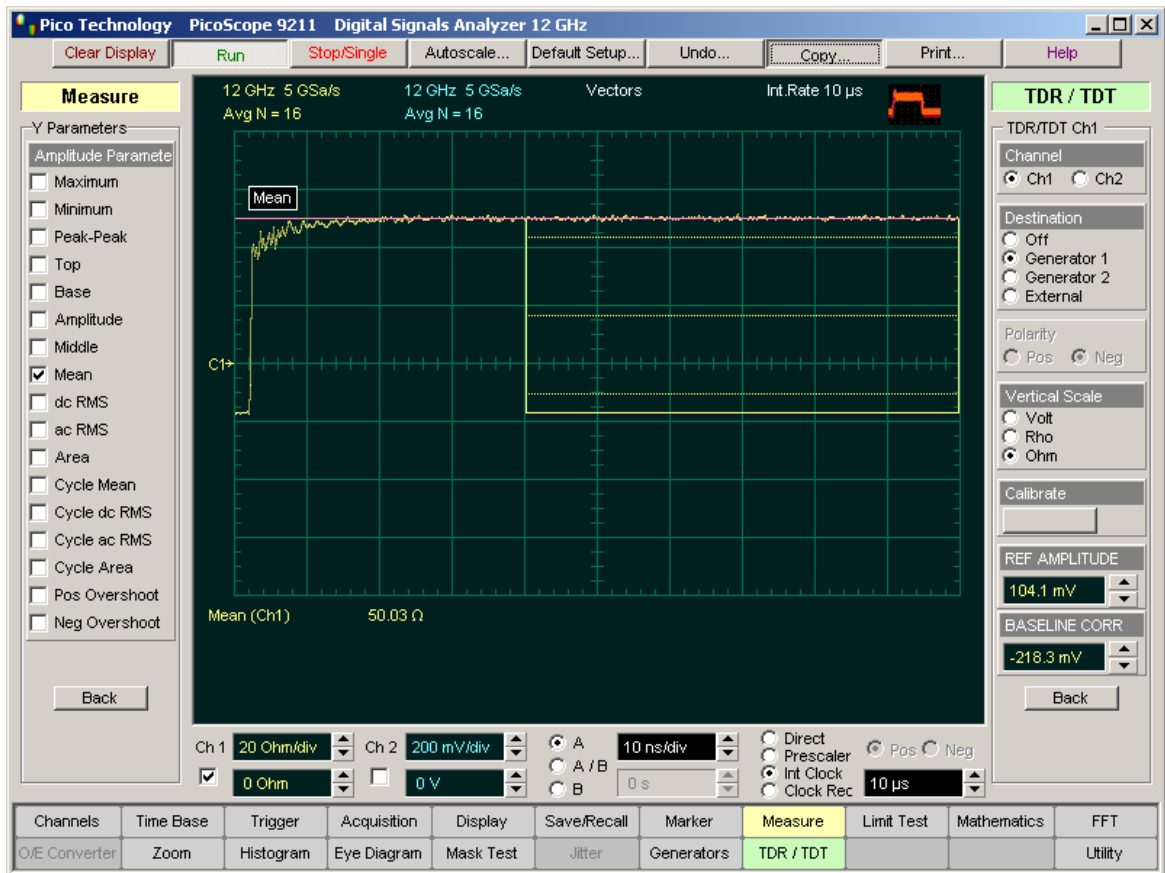

Figure 2
2. Click **Ohm** in the **Vertical Scale** menu. See Figure 2.
Fig. 2 shows that the ohm value is near 50 ohms when the transmission line is terminated in 50 ohms. The **Mean** measurement shows 50.03 ohm.